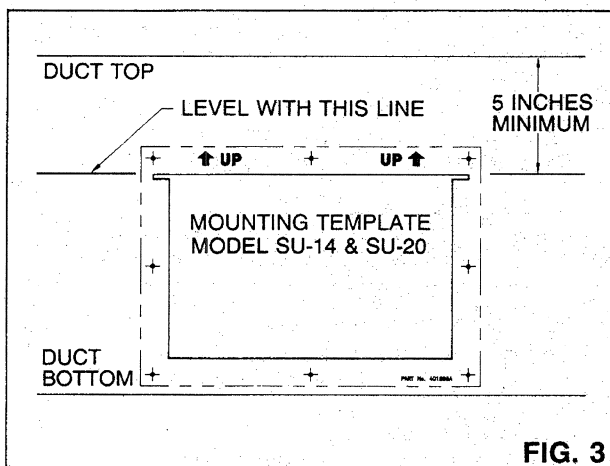

FIG. 3
When selecting a location on the duct, be certain that there is enough room for the water reservoir. There should be at least five (5) inches above the reservoir (see Figure 3) and the reservoir should not occupy more than 25 percent of the duct space. If this criteria cannot be met, you should order the "Under Duct Adaptor," Model 401930, in order to properly install the humidifier.
Once the installation location has been established, the mounting template is taped to the duct, as seen in Figure 3. The template must be leveled using the top of the cutout on the template. The template should be located so that the bottom of the reservoir cut-out is flush with the inside of the bottom of the duct. Since most ducts are insulated, the insulation thickness, about one (1) inch, must be accounted for when determining the location for the bottom of the reservoir cut-out.